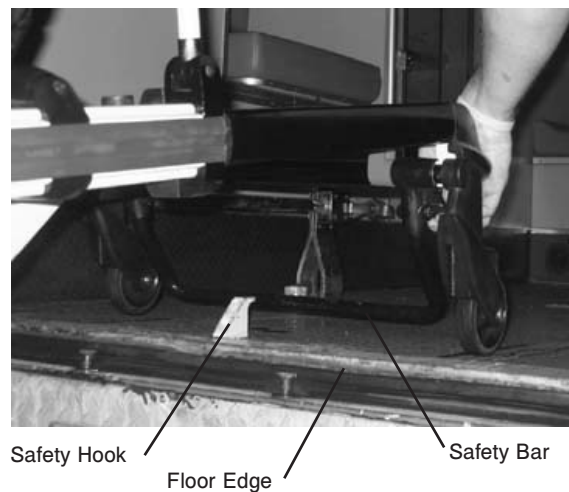

Figure 14 - Safety Bar Engaging Safety Hook
7. Fasten the safety hook to the patient compartment floor and verify that the safety hook always engages the cot safety bar when the cot is unloaded from the vehicle (Figure 14).